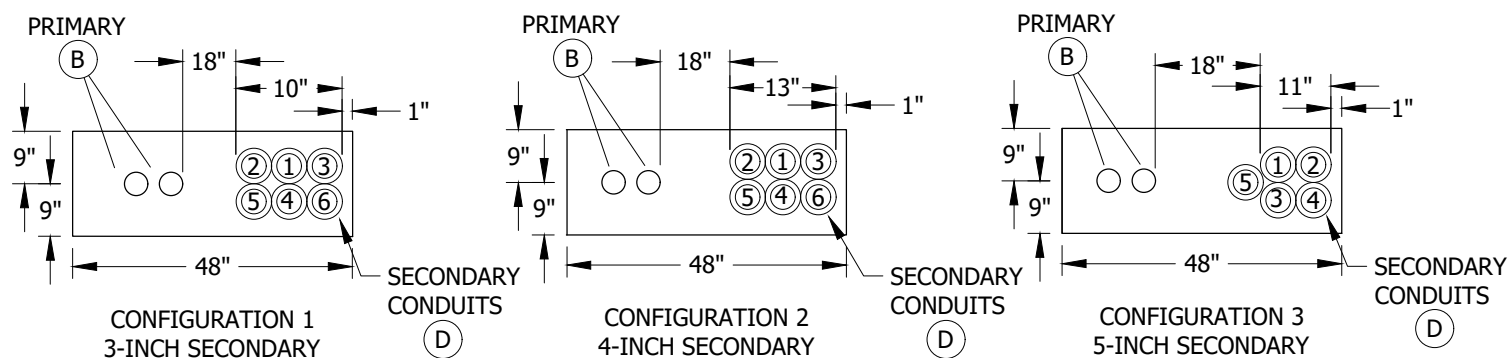

FIGURE 2
- (A) 1-INCH EARTH IN THE BOTTOM OF THE TRENCH IS REQUIRED TO PREVENT DAMAGE FROM ROCKS, SAGS, AND POCKETS.
- (B) PLACE ALL PRIMARY AND SECONDARY CONDUITS WITHIN THE PAD OPENING AS SHOWN IN FIGURES 2 & 3. TERMINATE PRIMARY AND SECONDARY CONDUITS FLUSH WITH THE TOP OF THE PAD. DO NOT CUT INTO THE CURVED PORTION OF THE ELBOWS. RADIUS OF CURVATURE IS 36-INCH MINIMUM FOR 3-INCH, 4-INCH AND 5-INCH CONDUITS.
- (C) THE CONDUIT CONFIGURATION REQUIREMENT BETWEEN TERMINATING POINTS LIMITS THE SECONDARY CONDUIT CONFIGURATION TO 2 WIDE X 3 DEEP OR 3 WIDE X 2 DEEP (NO ONE CONDUIT IS TO BE COMPLETELY SURROUNDED ON ALL FOUR SIDES BY OTHER CONDUITS), USING SPACERS AND 1 SACK CONCRETE SLURRY BACKFILL. CONDUITS MAY ALSO BE INSTALLED SIDE BY SIDE ON THE BOTTOM OF THE TRENCH WITHOUT SPACERS OR CONCRETE SLURRY (FOUR CONDUITS MAX.). IN THE TRANSITION AREA WHERE THE CONDUITS FROM THE BOTTOM OF THE TRENCH START TOWARD THE SURFACE (THE STRAIGHT PORTION BY THE 90° BEND), SPACERS MAY BE REQUIRED TO ALLOW THE 90° BENDS TO ENTER STRAIGHT INTO THE PAD OPENING. AT THE SURFACE POINT, THE CONDUITS MAY BE BUNDLED TOGETHER. USE SDG&E APPROVED BASE, SHADING AND BACKFILL.
- (D) ANY COMBINATION OF 3, 4 OR 5-INCH SECONDARY CONDUITS MAY BE USED, PROVIDED THEY DO NOT EXCEED THE TOTAL OF 6 OR THE MAXIMUM OF EACH SIZE CONDUIT AS SPECIFIED IN FIGURE 2. AN EXCEPTION WOULD BE WHEN THE TRANSFORMER FEEDS ONE CUSTOMER WITH A 2000A MAIN WHICH REQUIRES FIVE 5-INCH CONDUITS. NO FUTURE CUSTOMERS ARE ALLOWED IN THIS INSTALLATION. TWO EXTRA 1-INCH OR TWO EXTRA 2-INCH CONDUITS MAY BE ADDED TO SERVE STREET LIGHTS, RECREATION BUILDINGS, ETC.